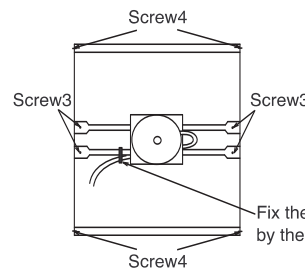

Fig.4 Top View
- E. Remove the screw3 of the motor, and exchange the motor, referring to Fig.4.